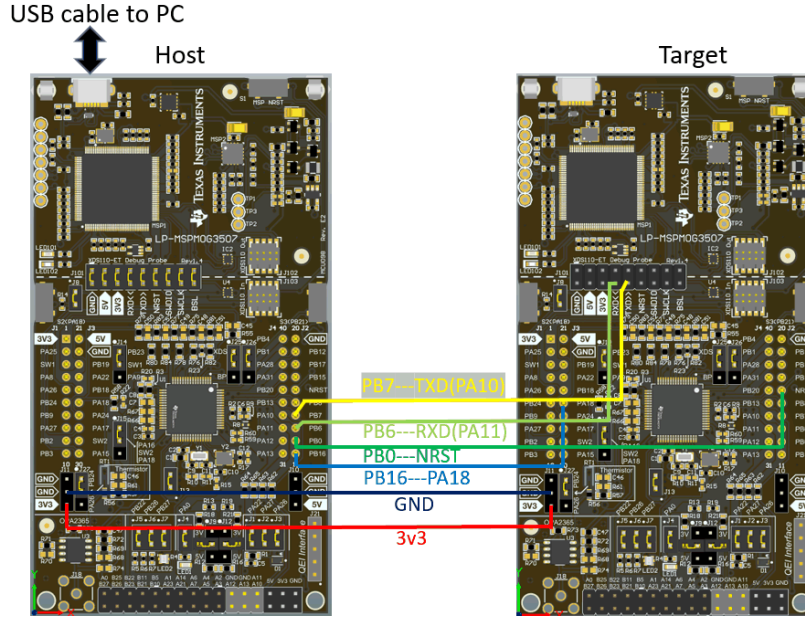

Figure 2-4. Hardware Signal Connections
1. Connect the hardware signals as shown in Figure 2-4. This example uses UART, so the I2C signals do not need to be connected.